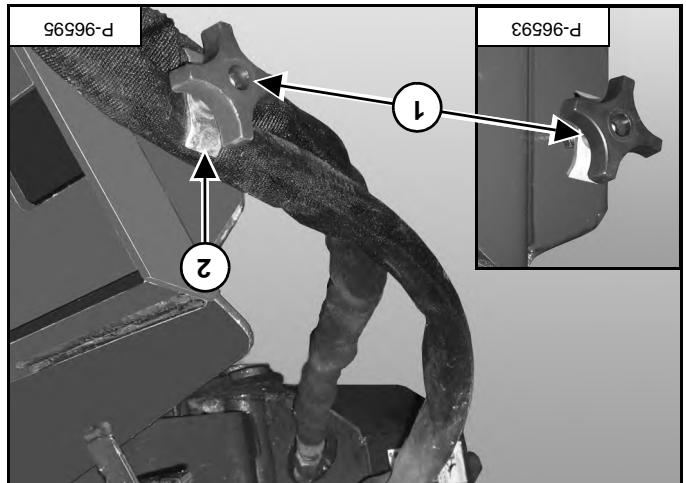

Figure 155
NOTE: Do not pull the auger hydraulic hoses tight. Place the auger hydraulic hoses between the clamp (item 2) [Figure 155] and auger mounting frame.
Loosen knob (item 1) [Figure 155] and clamp until there is adequate space for hydraulic hoses.